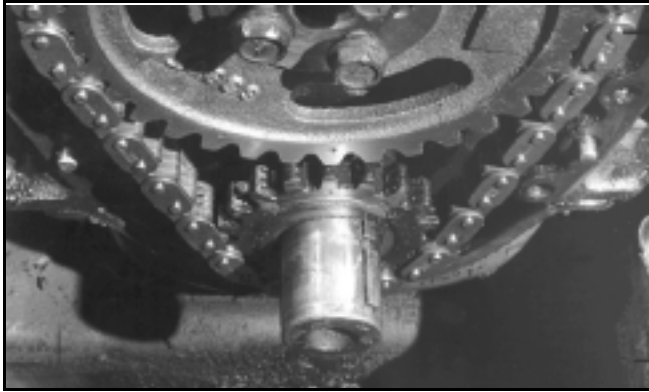
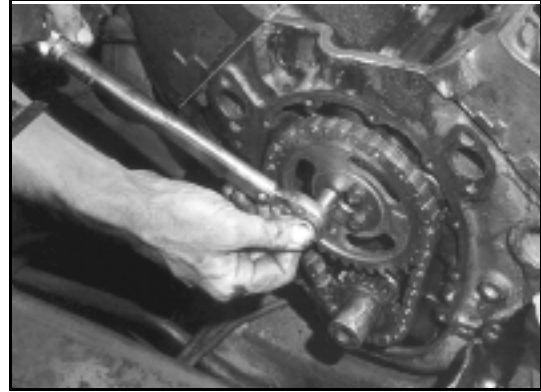

Figure 5
Figure 6
4. Remove the cam sprocket, install a new Crane chain, and bolt the assembly in place. Check the timing mark alignment (Figure 5) or your engine manual. Tighten the cam sprocket retaining bolts to correct torque specifications (Figure 6). This is very important as most cam damage is caused by the cam gear coming loose due to improperly torqued bolts or worn keys and keyways. If the gear loosens, the cam will slide back into the block causing the lifters to hit the adjacent lobes and bearing journals.